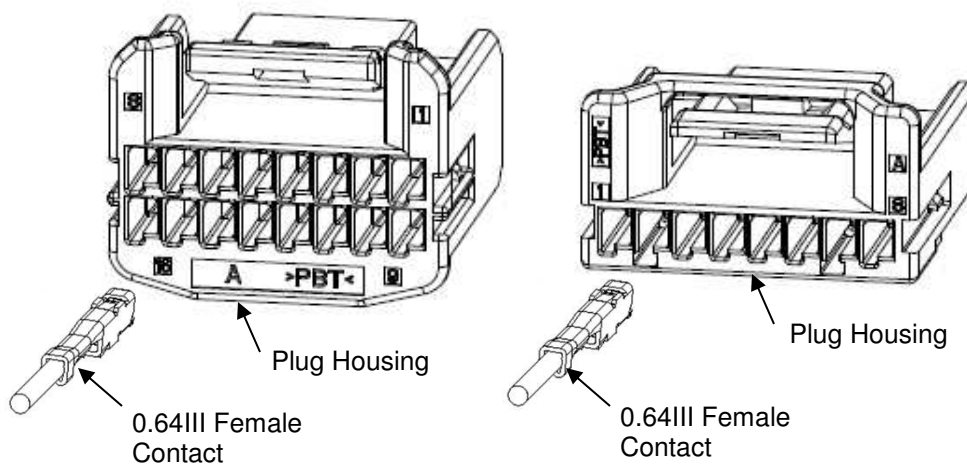

Fig. 4
- (2) Confirm type of plating on the contact. It must be the same type of plating on the female contact and the male contact. The type of plating can be seen on the customer drawing.
- (3) Insert the contacts into the housing with same direction as shown in Fig. 4. The insertion is finished when the lance is locked and the contact cannot be inserted.